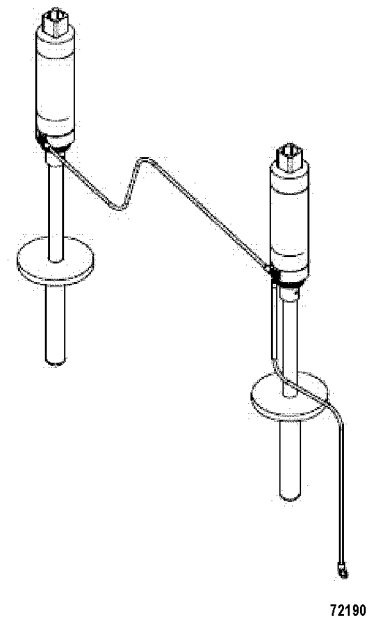

FIGURE 20-3. GROUNDING STICKS (PC3299)
- Grounding stick pair (Figure 20-3)